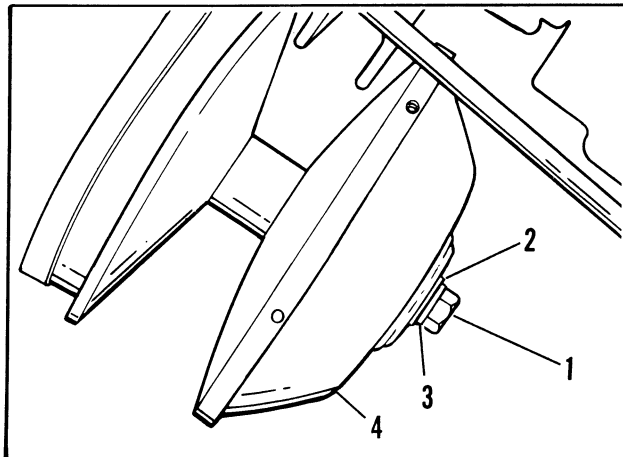

Figure 82 – Removing Movable Flange Cover
- f. See Figure 82. Remove the bolt (1), washer (2) and lockwasher (3) from the floating flange (4).